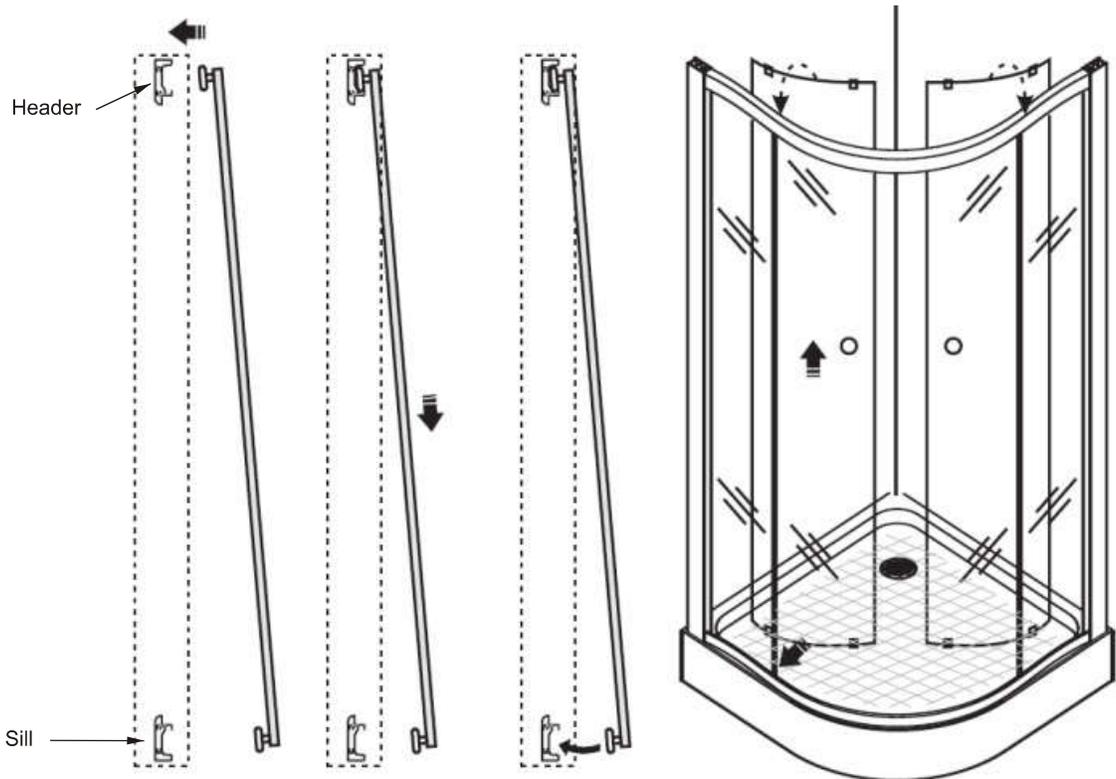

Figure 8
- Place the top rollers inside the rail of the header as shown in figure 8.